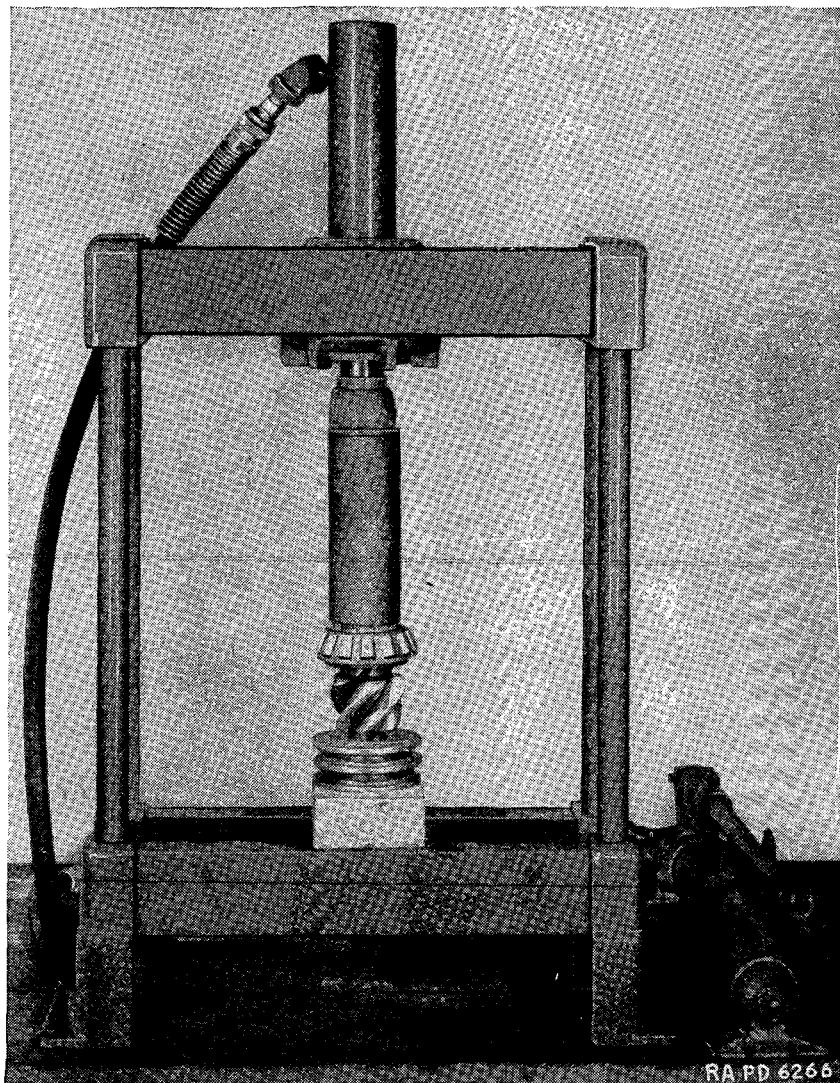

FIGURE 62.—Pressing on rear axle drive pinion inner bearing cone.
(1) Reassemble drive pinion. Follow steps in paragraph 16*b* (1) through (7) (figs. 62, 63, 64, and 65). Before replacing companion flange, check bearing adjustment as explained in paragraph 15*f*.